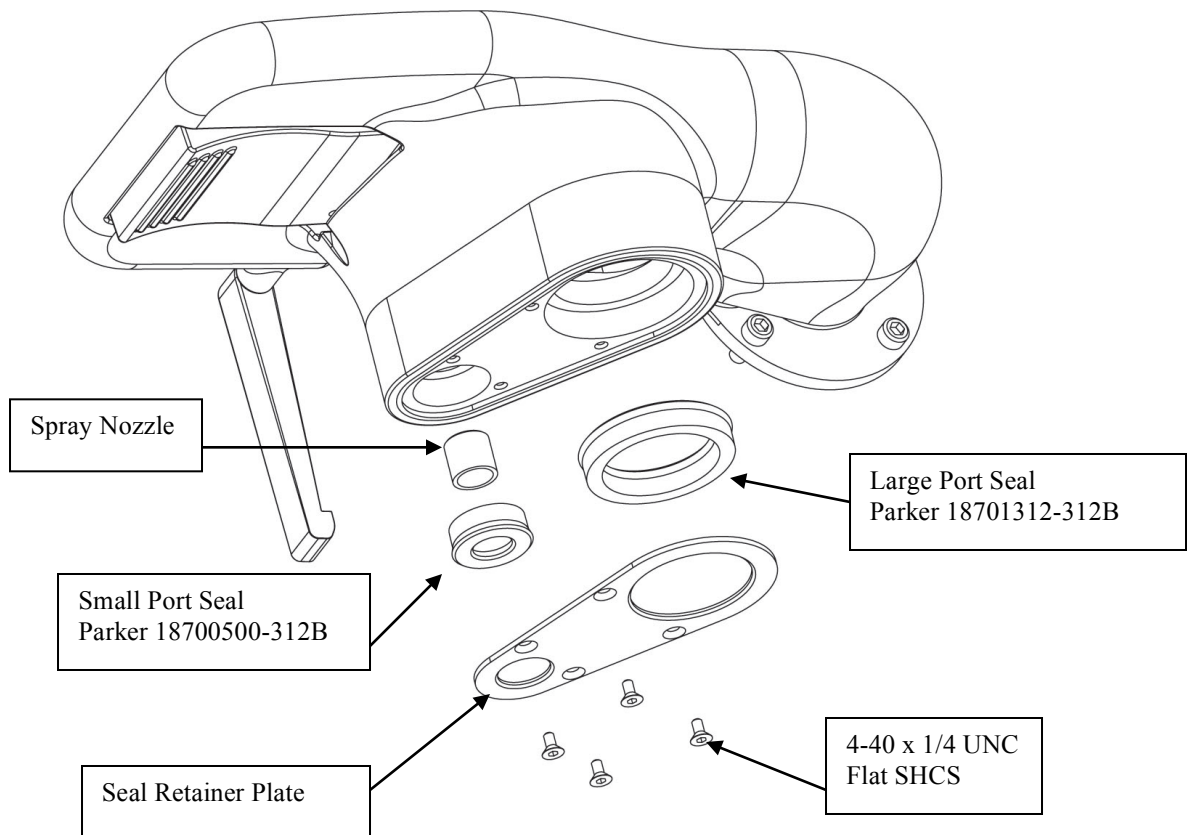

Figure 25: Exploded View Of Seals In Quick-Drain QF Drainhead
3. Before inserting new seals, be sure to coat the seal with a thin layer of lithium grease and confirm the seal orientation as shown in Figure 25.